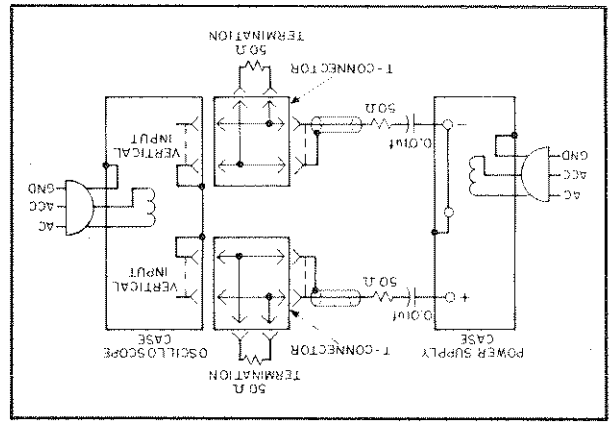

Figure 5-5. CV Noise Spike Test Setup
- As shown in Figure 5-5, two coax cables, must be substituted for the shielded two-wire cable.
- 5-31 The circuit of Figure 5-5 can also be used for the normal measurement of low frequency ripple and noise; simply remove the four terminating resistors and the blocking capacitors and substitute a higher gain vertical plug-in in place of the wide-band plug-in required for spike measurements. Notice that with these changes, Figure 5-5 becomes a two-cable version of Figure 5-4C.